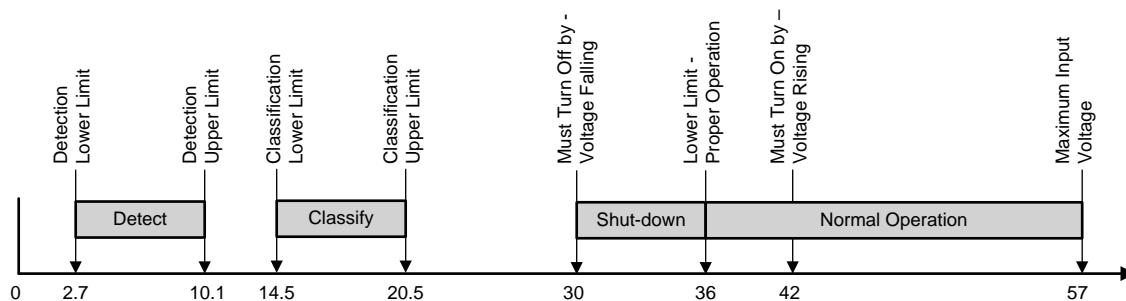
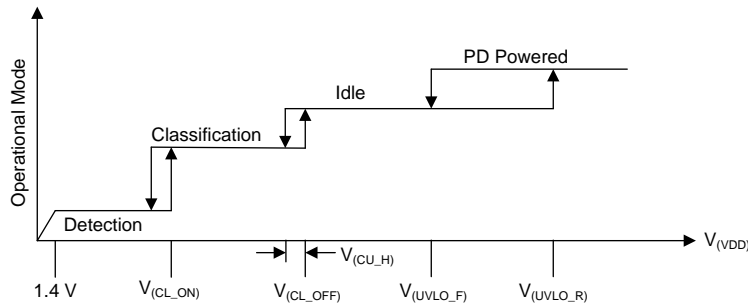

Figure 11. IEEE 802.3 PD Voltage Limits
Figure 12. Threshold Voltages
The TPS2376-H incorporates an undervoltage lockout (UVLO) circuit that monitors line voltage to determine when to apply power to the downstream load and allow the PD to power up. The IEEE 802.3af specification dictates a maximum PD turn on voltage of 42 V and a minimum turn-off voltage of 30 V shown in Figure 12. The UVLO pin provides the flexibility to adjust the turn on and turn off to the IEEE 802.3af limits, or a custom set. Design the turn-on for 39.5 V if a design which uses the IEEE 802.3af limits is desired.
The IEEE 802.3af specification defines a process for safely providing power over an ethernet cable when a capable device is connected, and then removing power if it is disconnected. The process proceeds through three operational states: detection, classification, and operation. An unterminated cable is not powered. The PSE periodically probes the cable with low voltage, looking for a 25 k Ω signature; this is referred to as detection. The low power levels used during detection are unlikely to cause damage to devices not designed for PoE. If a valid powered device (PD) signature is present during detection, then the PSE may optionally inquire about the amount of power the PD requires; this is referred to as classification. The PD may return a default full-power signature, or one of four other defined choices. In a high-power system, class may not be required, or the levels may be redefined to suit that particular system. The PSE may use the class power to determine if it has adequate power to operate this device, and later to determine if a device is using more power than it requested. At this point in the process, the PSE may choose to power the PD. The PSE output is protected against shorts and overloads when the PD is powered. The maintain power signature (MPS) is presented by the powered PD to assure the PSE that it is present. The MPS is either a minimum dc current, a maximum ac impedance, or both. When the MPS disappears, the PSE removes power and returns to its initial state. Figure 11 shows the operational states as a function of PD input voltage range as defined in IEEE 802.3af.
In order to implement the defined PoE functions shown in Figure 11, the TPS2376-H has a number of internal comparators with hysteresis for stable switching between the various states. Figure 12 relates the parameters in the *Electrical Characteristics* section to the PoE states. The mode labeled *idle* between classification and PD powered implies that the DET, CLASS, PG, and RTN pins are all high impedance.
The classification process applies a voltage between 14.5 V and 20.5 V, for a maximum of 75 ms, to the input of the PD, which in turn draws a fixed current set by $R_{(CLASS)}$. An 802.3af PSE measures the PD current to determine which of the five available classes shown in Table 1 that the PD is signaling. The total current drawn from the PSE during classification is the sum of bias currents and current through $R_{(CLASS)}$. The TPS2376-H disconnects $R_{(CLASS)}$ at voltages above the classification range to avoid excessive power dissipation see Figure 11 and Figure 12.